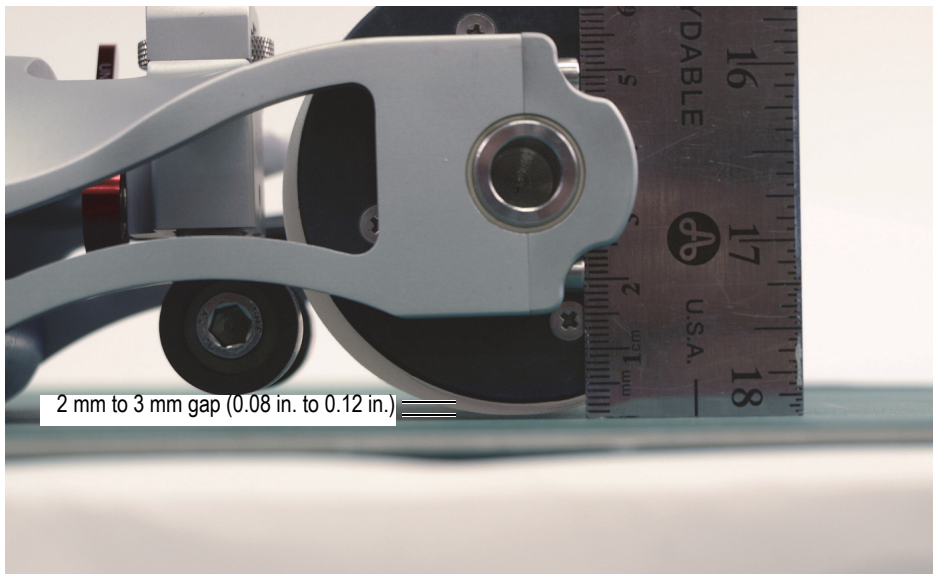
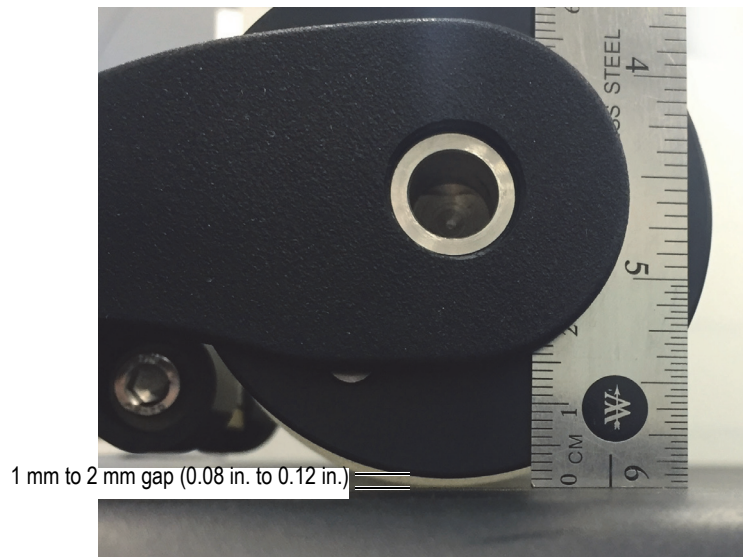

Figure 3-5 Acoustic wheel flange and surface gap (RollerFORM)
Figure 3-6 Acoustic wheel flange and surface gap (RollerFORM XL)
The acoustic wheel’s liquid chamber is properly filled when the RollerFORM is sitting on a flat surface without any downward pressure applied on the handle and a gap measuring 2 mm to 3 mm (0.08 in. to 0.12 in.) remains between the black acoustic wheel flanges and the surface to inspect (Figure 3-5 on page 51 and Figure 3-6 on page 51). If the gap is larger, remove some glycol or water by opening the OUT valve and letting some liquid out of the liquid chamber. Then, measure the gap again. Repeat this operation until the gap between the black acoustic wheel flanges and the surface to inspect is between 2 mm and 3 mm (0.08 in. to 0.12 in.).
5. Make sure that the acoustic wheel's liquid chamber is properly filled. With the RollerFORM sitting on a flat surface and without any downward pressure applied on the handle, verify that a gap measuring 2 mm to 3 mm (0.08 in. to 0.12 in.) remains between the black acoustic wheel flanges and the surface to inspect (Figure 3-5 on page 51).